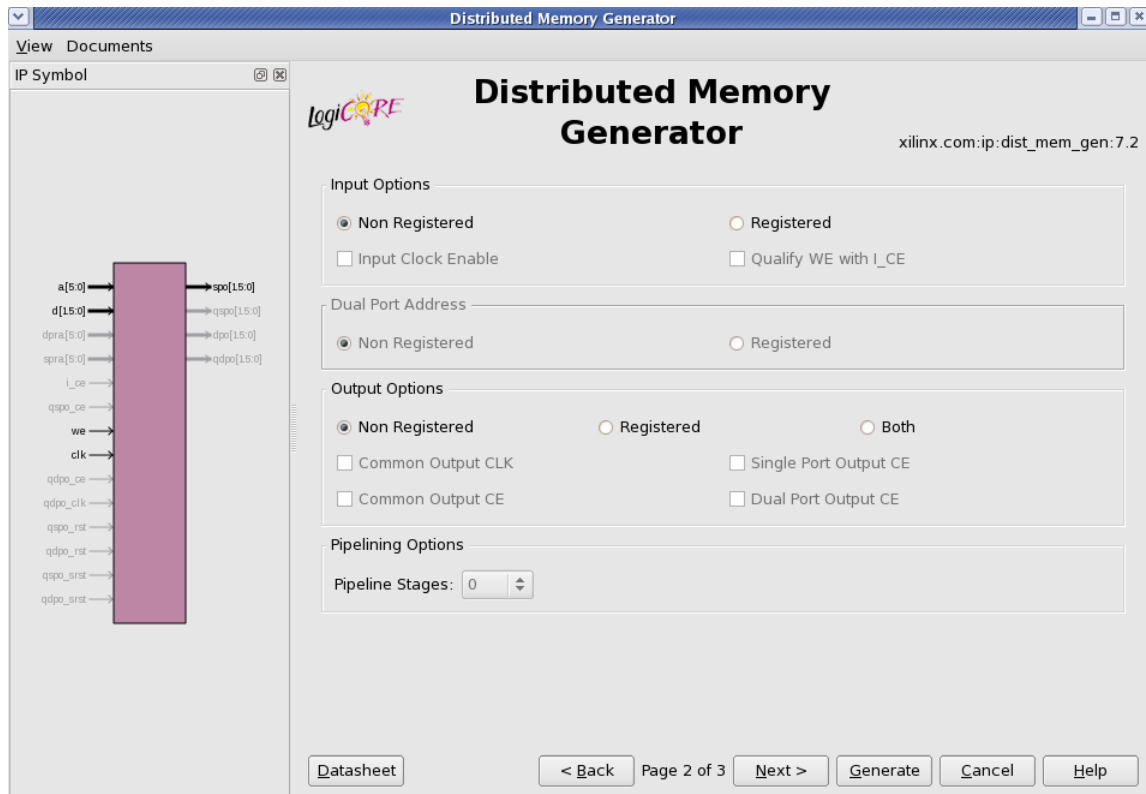

Figure 7-2: Distributed Memory Options Screen
- Input, Dual-Port, and Output Options Screen (Figure 7-2)